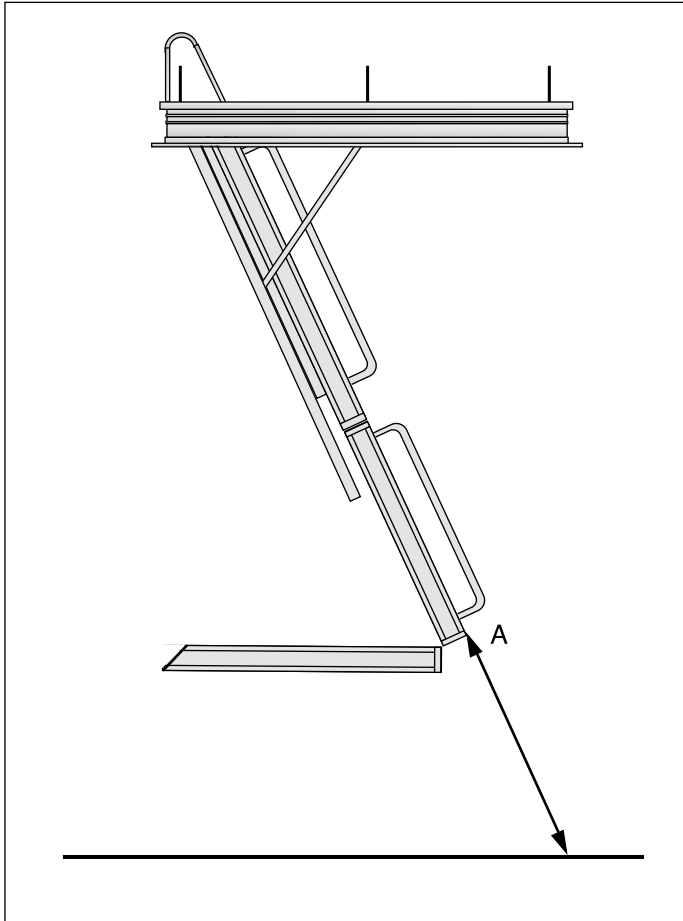

Figure 8
- * Using a straight-edge, measure on the front side of the stair from point "A" to floor. Figure 8.